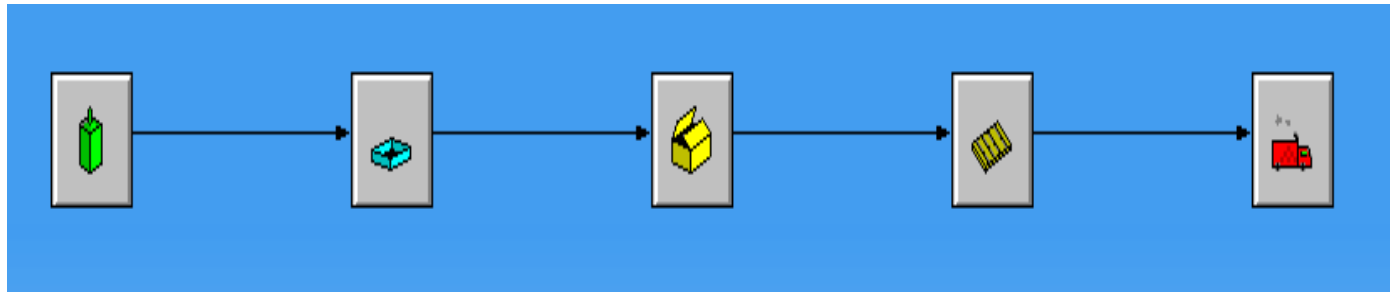

Figure 17.3 Package design sequence: bottle to tray to shipcase to pallet to truck
1. Define the Package Design Sequence (Figure 17.3)